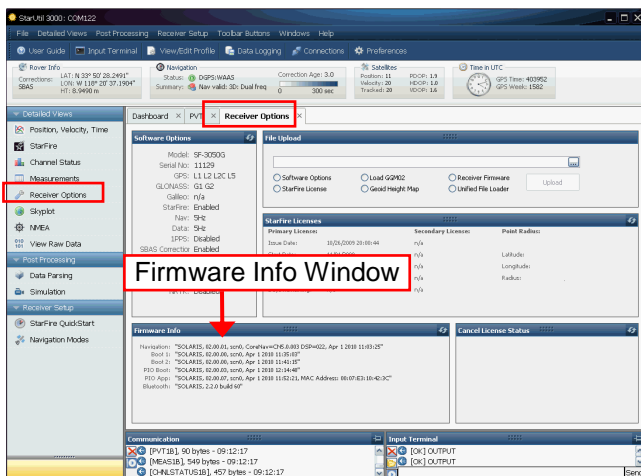

Figure 7: Access to Receiver Options Tab
In StarUtil 3000, checking the contents of the *Firmware Info* window (see Figure 7) on the *Receiver Options* tab is the easiest way to determine if the installed firmware is the most current. An alternative method is to use the *Input Terminal* window (see Determine Firmware Version via the Input Terminal, below).
17. Click *Receiver Options* on the *Detailed Views* menu to open the *Receiver Options* tab (see Figure 7).